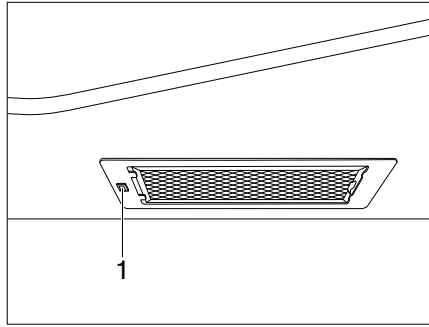

Fig. 327 Extractor hood
- Use the switch (Fig. 327,1) to turn the extractor hood on and off.